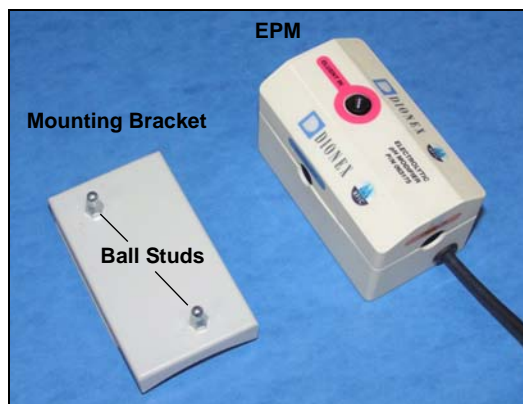

Figure 61. EPM and Mounting Bracket
2. Push the EPM onto the ball studs on the mounting bracket (see Figure 61).